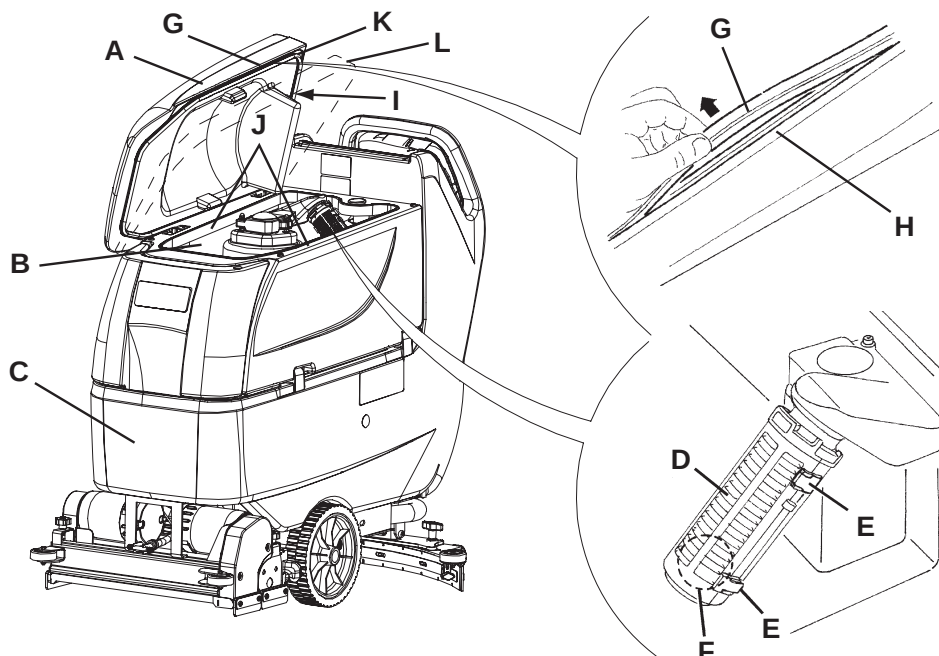

Figure 7
2. Turn the ignition key (80) to "0" position.
3. Open the cover (A, Fig. 7) to washing position (L).
4. Wash with clean water the cover (A), the tanks (B and C) and the vacuum grid with automatic shut-off float (D).
6. If necessary, release the retainers (E) and open the grid (D), recover the float (F), clean all the components and then reinstall them.
7. Check the tank cover gasket (G) for integrity.